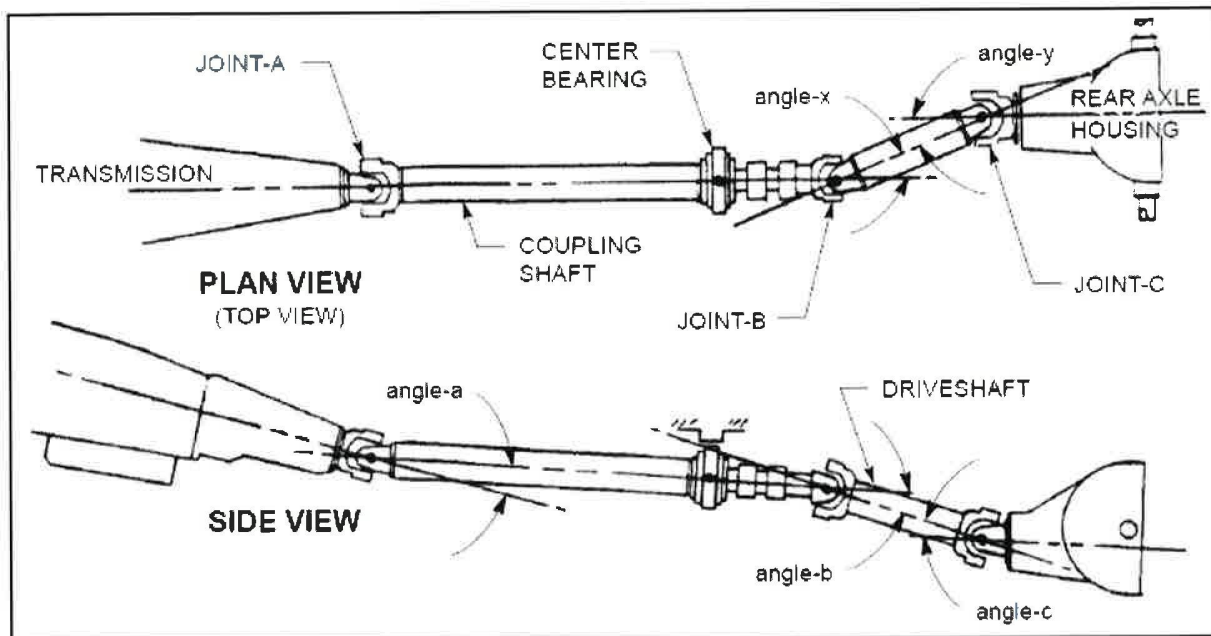

Figure 24 – Example Driveline System
1) The NET OPERATING ANGLE, at any individual joint, must be at least 0.5 degree, and not exceeding 3.0 degrees. The NET OPERATING ANGLE ( $\Theta$ ) is equal to the root sum of squares (RSS) of the side and plan view angles between two segments of the drivetrain (See Figure 23). Figure 24 illustrates a typical driveline system. Using this figure, the Net Operating Angle of each joint would be calculated as shown in Figure 25.